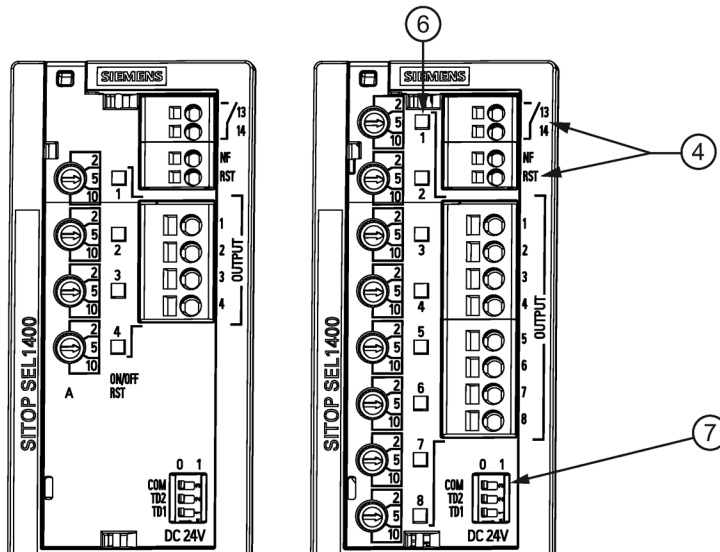

Figure 2-4 Status displays and signaling
The operating state of the device can be processed using the group signal contact ④ (for the function and content rating, see Figure 2-4 Status displays and signaling (Page 16)). The remote reset (RST) input ④ is used to reset outputs that have automatically been shut down (function, see Chapter Status displays and signaling (Page 16)).